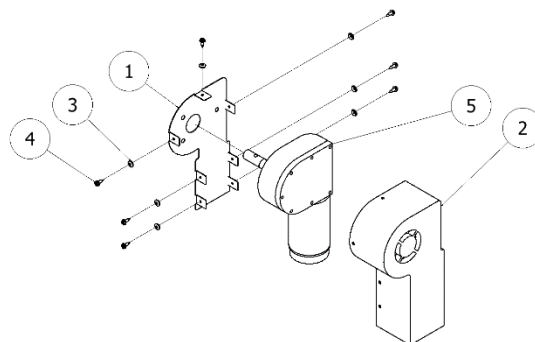

Figure 2.2
After you have verified the system has been wired correctly attach the chrome motor cover (2) to the motor cover plate (1) using the seven supplied #10 screws (4) and rubber grommets (3). (Figure 2.2)